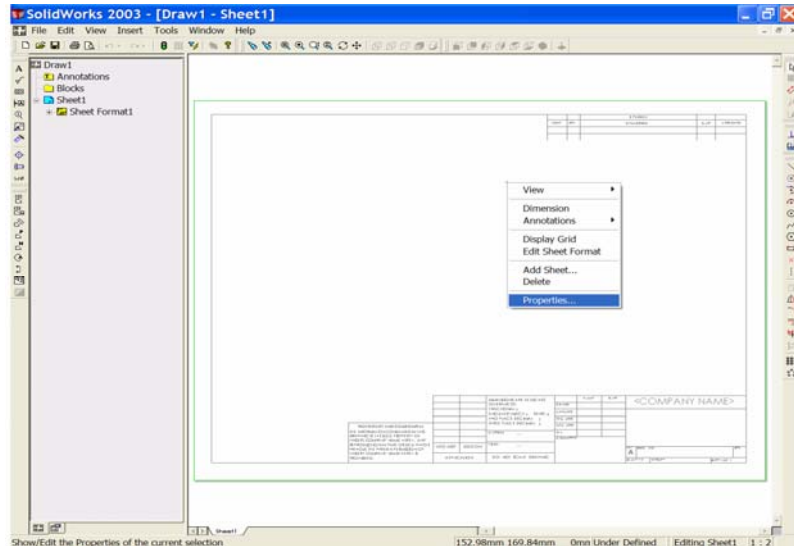

Figure 2
5. In the white drawing area 'Right click' once to open a short-cut window. Select 'Properties' to open the 'Sheet Setup' box. See Figure 2. In the sheet set-up box use the down arrow at the right side of the paper size box to choose the paper size, in this case, **A3-Landscape**.